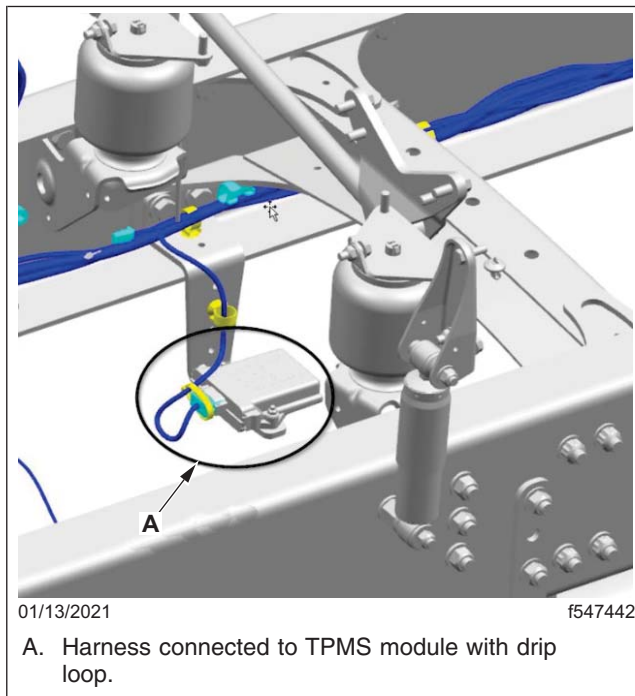

Fig. 6, Securing the Harness
8. Ensure that the harness (wire) connected to the TPMS has a drip loop and is securely fastened to the connector with the tie strap as shown in Fig. 6.